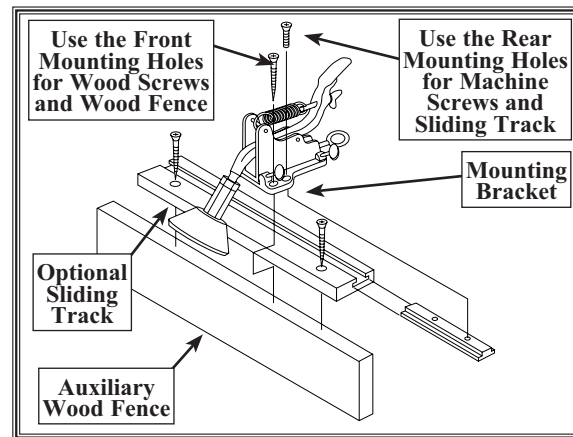

Figure 2. Auxiliary wood fence and an optional sliding track.
The Board Buddy brackets (3) can be installed directly on an auxiliary wood fence (not included) or an optional sliding track (12" part # W1107 or 24" part # W1108 not included). The optional sliding track also mounts to the auxiliary wood fence. See **Figure 2**.
6. Mark the FRONT screw hole locations and drill the pilot holes into the wood fence for the wood screws (REAR holes are for the optional track). See **Figure 2**.